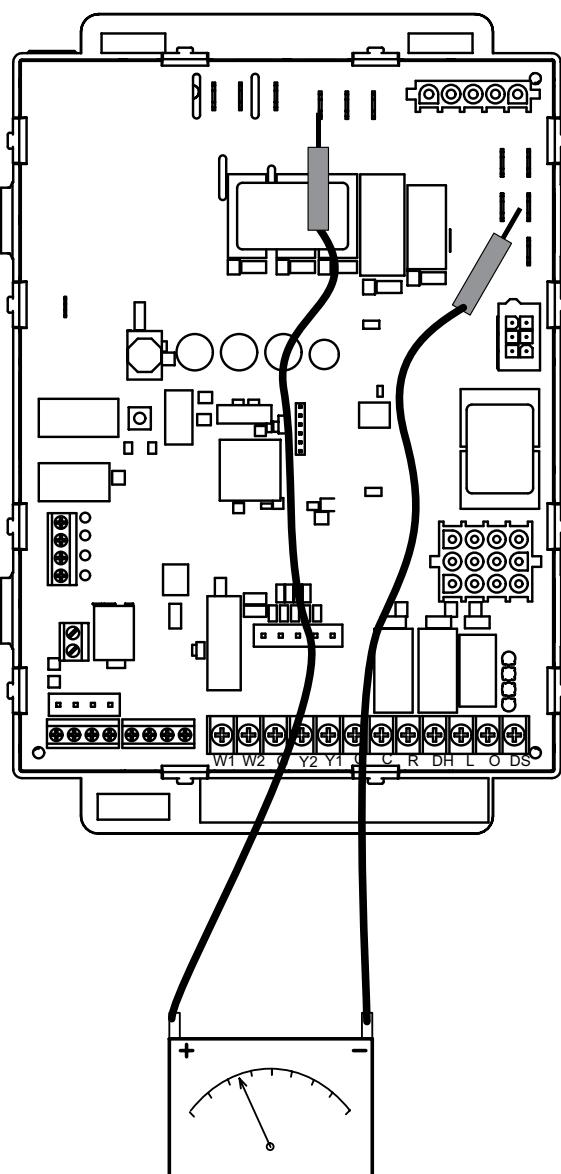

Figure 53.
1. Measure the AC voltage between Line Neutral (spade terminals) and "C" terminal (low voltage terminal block) on the integrated control. See Figure 53. A wide variation in the voltage between Line Neutral and "C" as a function of load indicates a poor or partial ground. Compare the readings to Table 28. If the readings exceed the maximum shown in Table 28, make repairs before operating the furnace.
2. In addition, measure the AC voltage from Line Hot to Line Neutral (spade terminals) on the integrated control. See Figure 53. This voltage should be in the range of 97 to 132 VAC